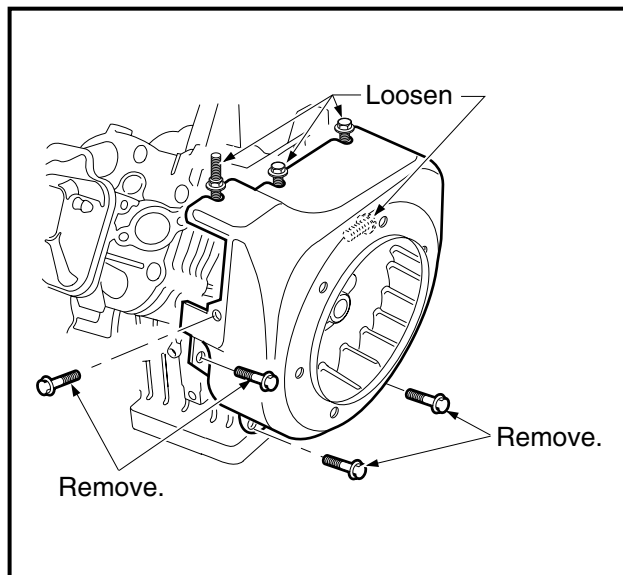

Figure 13-6 Flywheel Housing
2. Loosen three screws and remove the remaining four screws attaching the flywheel housing as shown, then remove the fan housing (**Figure 13-6, Page 13-7**).